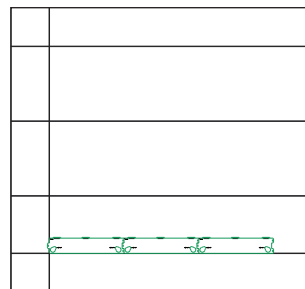

Figure 4: Use Jigs
- Remove the left jig and continue down the tube, using as many jigs as supplied/necessary. Refer to **Figure 4**.